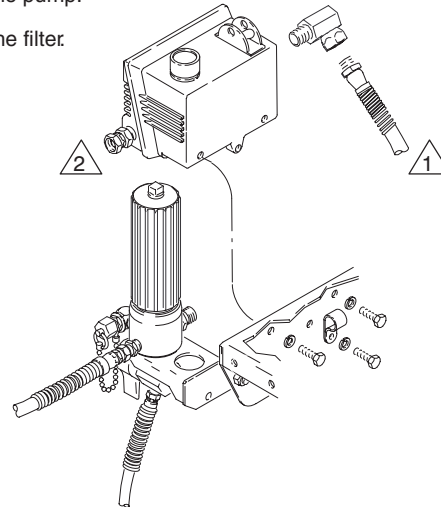

Fig. 20
2. Disconnect both hoses at the pressure control while holding the fitting or elbow (A) firmly. See the **CAUTION**, below. Note the original location of each hose to be sure you reassemble them correctly at the end of this procedure. See Fig. 20.